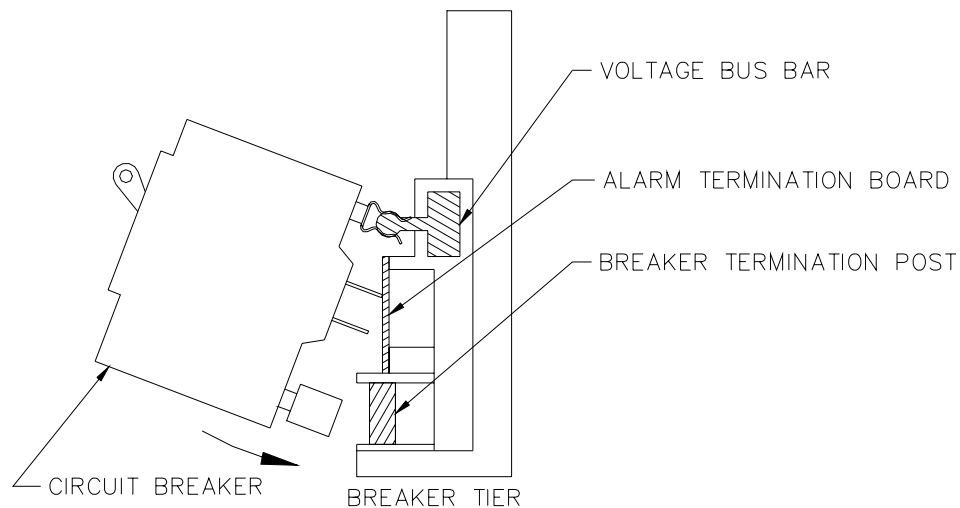

Figure 5.7-1. Installation of Circuit Breakers
- 2) Install the circuit breaker(s) by snapping the top terminal onto the upper bus bar and rotating the unit down until the second terminal snaps onto the breaker termination post as shown in Figure 5.7-1. The breaker alarm terminals are designed to make contact with the alarm terminal board as the breaker is snapped into place.